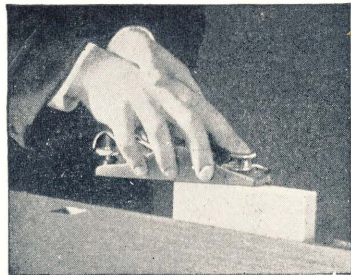

Fig. 18. End planing with block plane.*
- d. Mark this edge "number five" (Fig. 18)